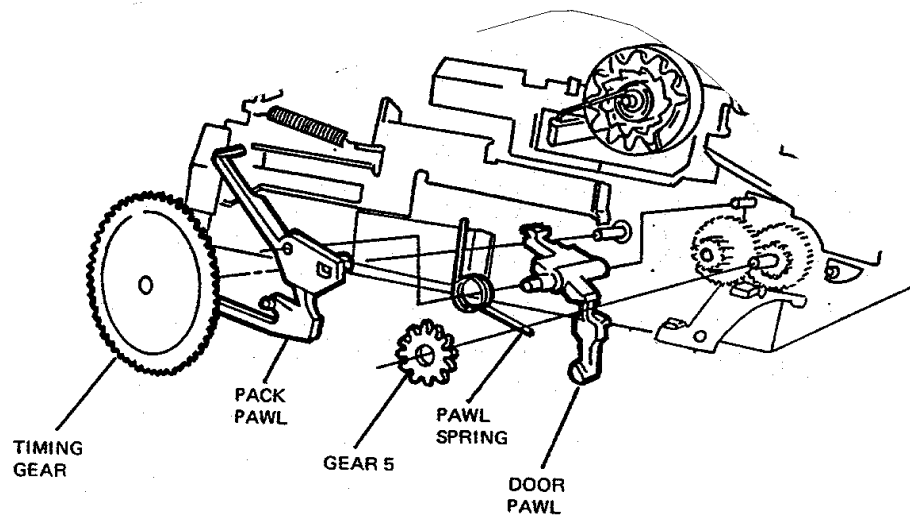

Fig. 51 Replacing the Timing Gear
62. Install the Timing Gear on its shaft (Fig. 51). It may be installed in any position as long as none of its cams interfere with the motion of the Pick. (The camera will time itself in its first cycle.)